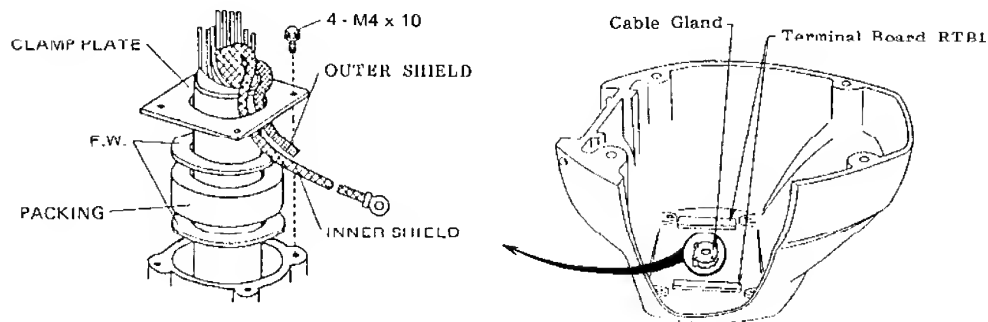

Fig.4 Bottom of Scanner Housing
5. Tighten the cable gland to the scanner base for complete watertightness. Ground the outer shield of the multicore cable with the clamp plate as shown in Fig.4.